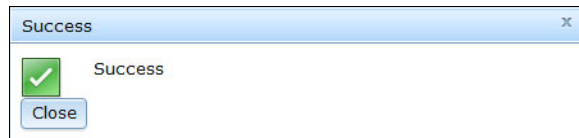

Figure 3-5 Key installed successfully
- Click **OK** to upload the key file. If the key is valid for this system, a Success dialog is displayed, similar to the example that is shown in Figure 3-5. Click **Close**.